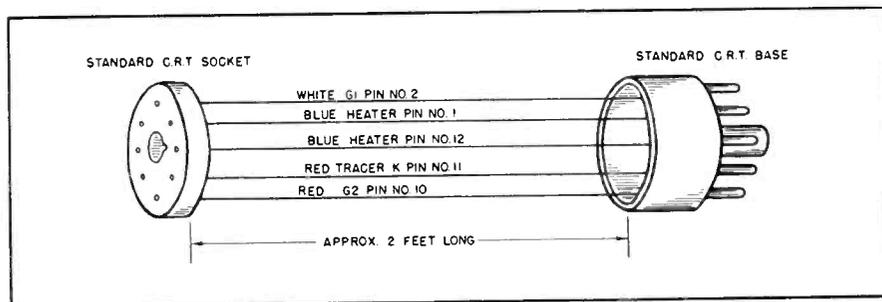

Fig. 1 How the jumper cable is constructed
5. Special jumper cable as shown in Fig. 1.
All of the changes made in the wiring can be easily seen by comparing the diagrams of Fig. 1, that of the original receiver, with Fig. 2, that of the finished product.